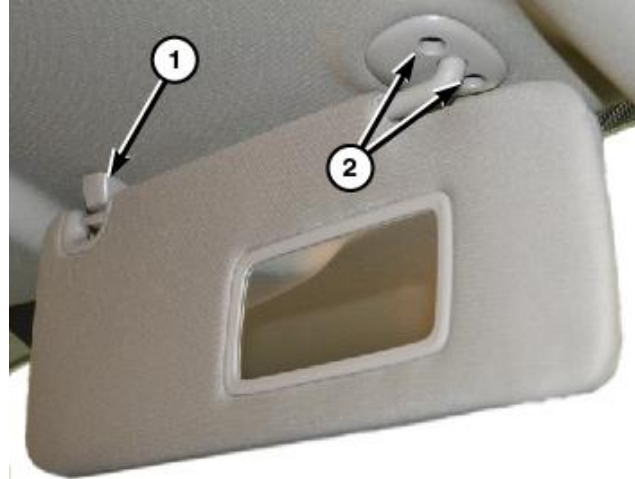

Figure 31 – Visors
18. Separate the visor from the support (1) then remove the screw and remove the visor support (Figure 31).
19. Remove the visor screws (2) then remove the visor (Figure 31).
44. Position the visor supports (1) onto the headliner and install the screws into the mounting clips (Figure 31).
46. Position the visor to the headliner and install the screws (2) that secure the visor to the roof panel. Tighten the screws to 6 N·m (53 in. lbs.) (Figure 31).